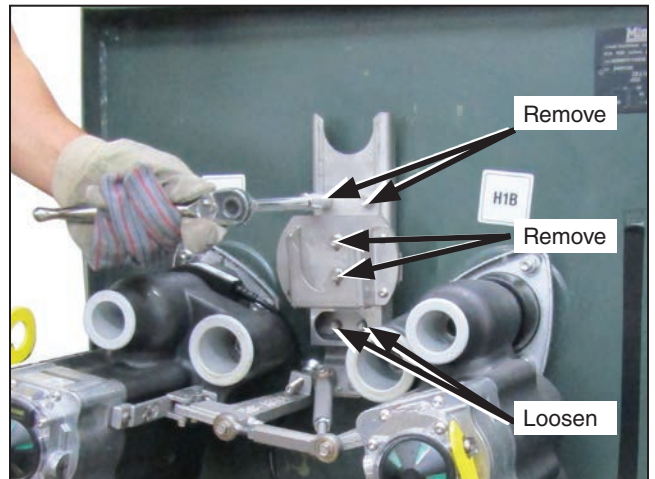

Figure 11. Remove the two screws on extender. Loosen the screws on the parking stand spacer and parking stand extender.
- STEP 1.** Loosen and remove the four $\frac{1}{4}$ -20 $\times$ $\frac{5}{8}$ -inch flange head bolts shown in Figure 11.